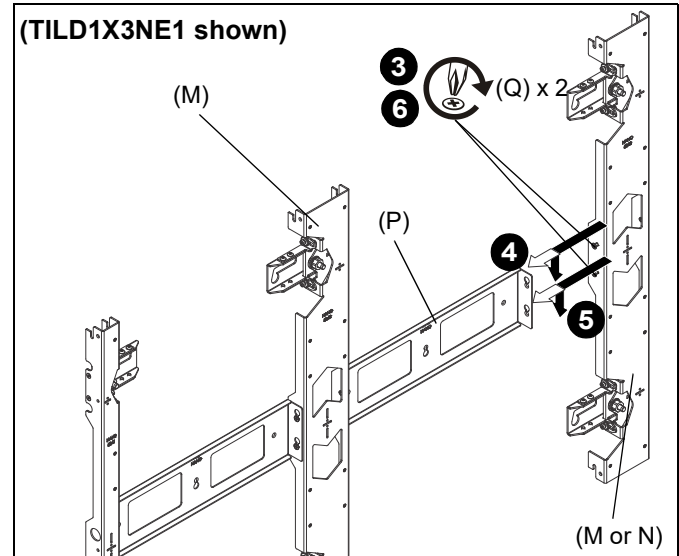

Figure 16
3. Partially install two #10-24 x 1/2" Phillips flathead screws (Q) into middle two holes on middle upright (M) or right upright (N). (See Figure 16)
4. Insert two partially installed screws (Q) into holes on opposite side of spacer plate (P). (See Figure 16)
5. Lower upright until screws are properly seated in keyhole mounting holes. (See Figure 16)
6. Tighten two screws to secure spacer plate to mounting upright (M) or (N). (See Figure 16)